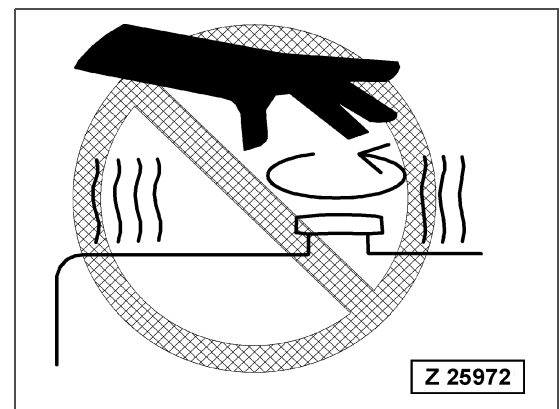

Fig. 1-12
- To prevent burns from hot water or steam spurting out when checking or draining the coolant, wait for the water to cool to a temperature where it is possible to touch the radiator cap (Fig. 1-12) by hand before starting the operation. Even when the coolant has cooled down, loosen the cap slowly to relieve the pressure inside the radiator before removing the cap.
Refer to Fig. 1-12: